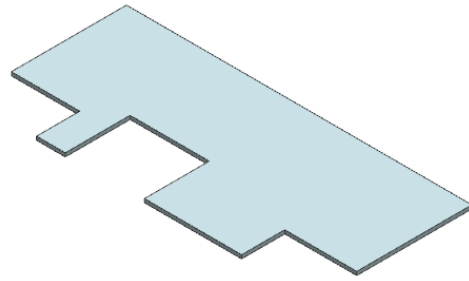

Figure 14-106 The tab feature created
4. Exit the sketching environment and specify the thickness of the sheet metal part in the upward direction. Exit the **Tab** tool to create the base of the sheet metal part, as shown in Figure 14-106.